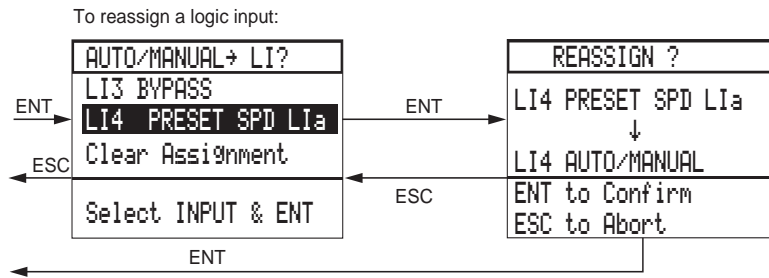

Figure 44: Reassigning Logic Inputs
- **Logic Input:** assign a logic input to Current Limit (see Figure 44 on page 74 for procedure). When the assigned logic input is low (state 0), the Current Limit value is the default setting. When it is high (state 1), the Current Limit is the reduced value.